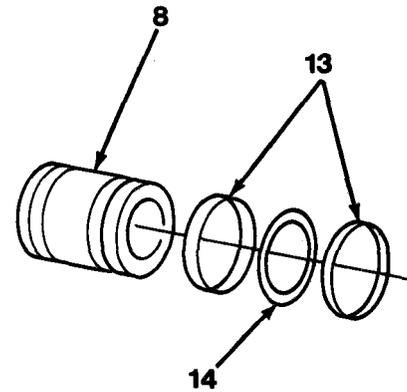

Figure 13-6
13. Remove two back-up rings (13) and O-ring (14) from piston (8, Figure 13-6).